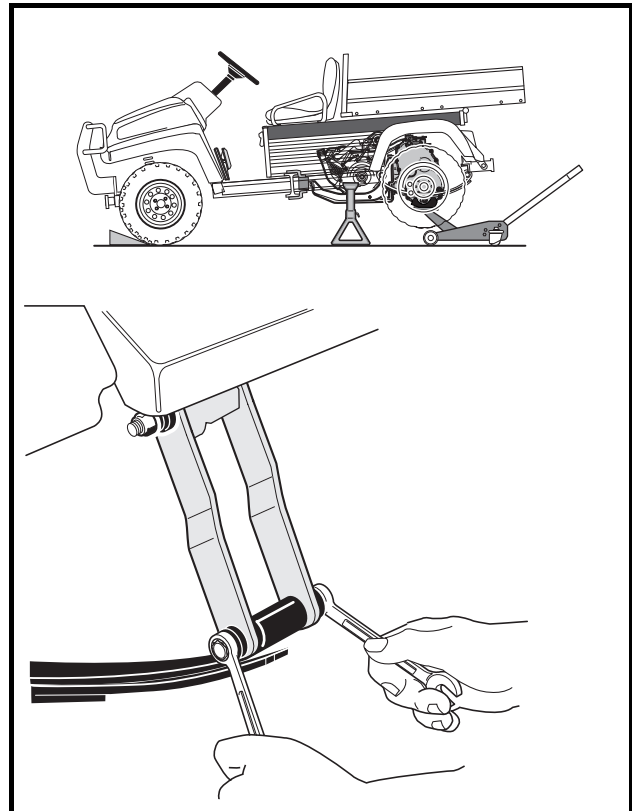

Figure 16-46 Leaf Springs and Shackles
16. Adjust the powertrain height, using the floor jack, to align the leaf springs for mounting in the shackles and install the mounting bolts and lock nuts and tighten to 15 ft-lb (20.3 N·m) (**Figure 16-46, Page 16-18**).